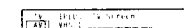

Fig. 43.
- 2 Select TV Screen (input source for the TV screen), PIP (input source for the PIP screen), or output (output source) with or and press OK. One of the source items changes colour. (See Fig. 43)